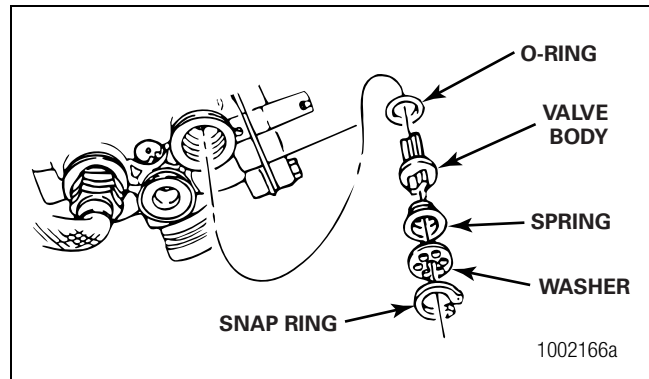

Figure 3.4
4. Install the new O-ring on the valve body. Figure 3.4.